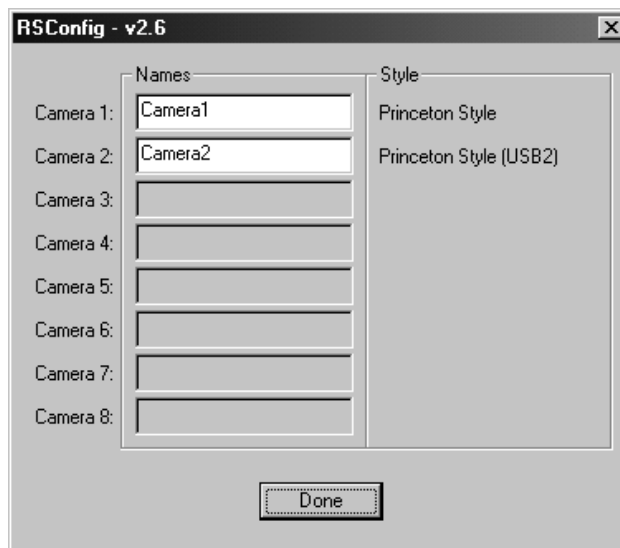

Figure 10. RSConfig dialog box: Two Camera Styles
4. Run RSConfig.exe (accessible from the **Windows|Start|Programs|Roper Scientific** menu). If the USB 2.0 camera is listed as Camera 2 (Princeton Style (USB2) in Figure 10), you will have to edit the PVCAM.INI file.